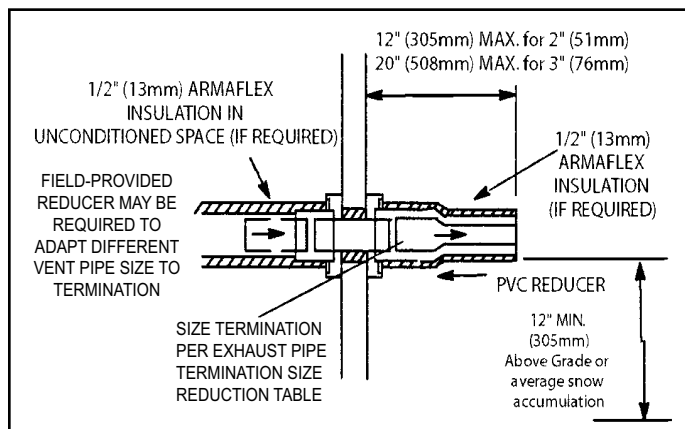

Figure 46. Non-Direct Vent Field Supplied Wall Termination
2. On field supplied terminations for side wall exit, exhaust piping may extend a maximum of 12 inches (305 mm) for 2" PVC and 20" (508 mm) for 3" PVC beyond the outside wall. See Figure 46.